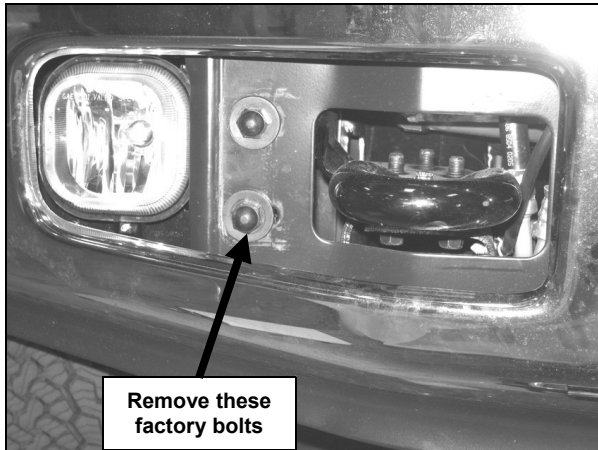

Figure 2
3. From front of vehicle remove the driver side bumper mount bolts (Figure 2).